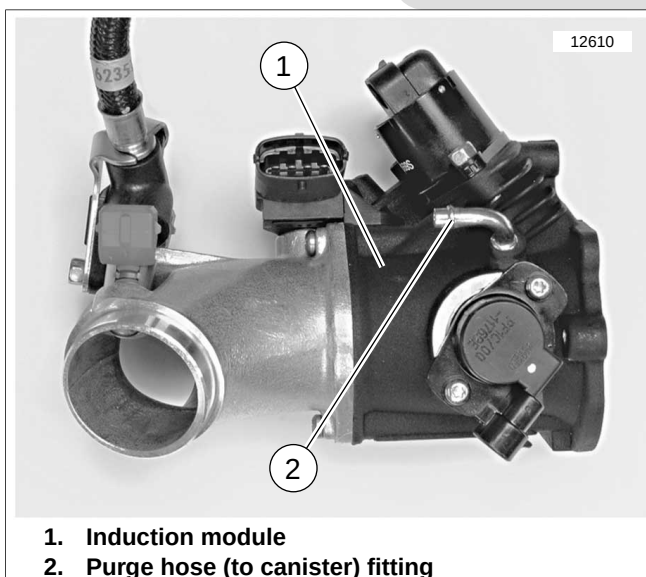

Figure 4-47. Purge Hose Fitting (California Models Only)
15. **California models only:** See Figure 4-47. Install purge hose onto fitting (2) on induction module (1).